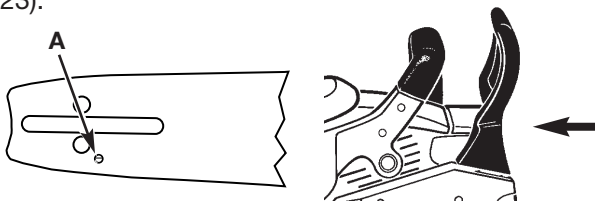
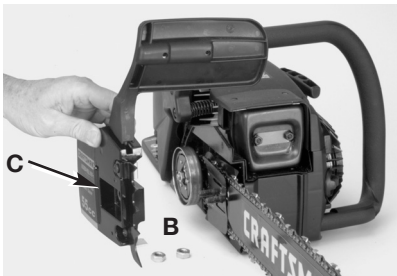
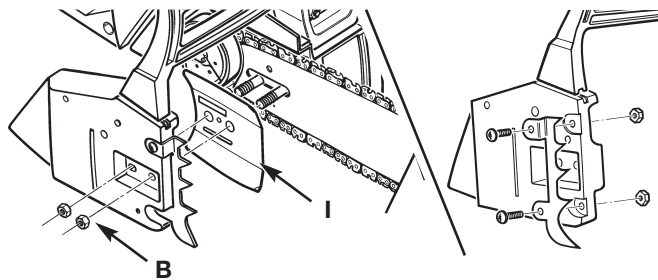
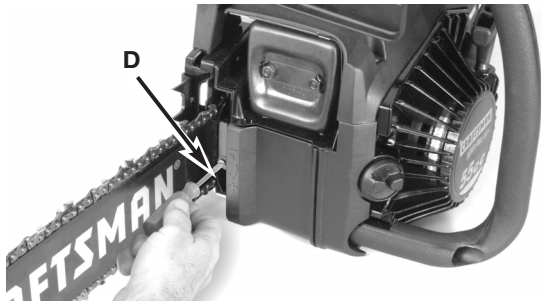

Fig. 21
Fig. 22
Fig. 27
Fig. 28
**CAUTION:** To ensure the bar and chain receive oil, **ONLY USE THE ORIGINAL STYLE BAR** with the oil passage hole (A) as illustrated in Fig. 21.
1. Make sure the Chain Brake® lever is pulled back into the DISENGAGED position (Fig. 21). Remove bar retaining nuts with supplied multi-purpose tool (Fig. 22).
2. Remove chain brake cover (C, Fig. 22) and outer guide bar plate (I, Fig. 27) by pulling straight out (Fig. 22).
6. Replace the outer guide bar plate (I) so the bent edges (top and bottom) are directed away from the chain (Fig. 27).
7. Install the Chain Brake® cover (Fig. 27). Make sure the chain does not slip off of the bar. Install the 2 bar retaining nuts hand tight and follow instructions in Saw Chain Tension Adjustment.
1. Loosen the bar retaining nut(s) (B, Fig. 27). Hold nose of guide bar up and turn adjustment screw (D) CLOCKWISE to increase chain tension. Turning screw COUNTERCLOCKWISE will decrease amount of tension on chain. Ensure the chain fits snugly all the way around the guide bar (Fig. 28).